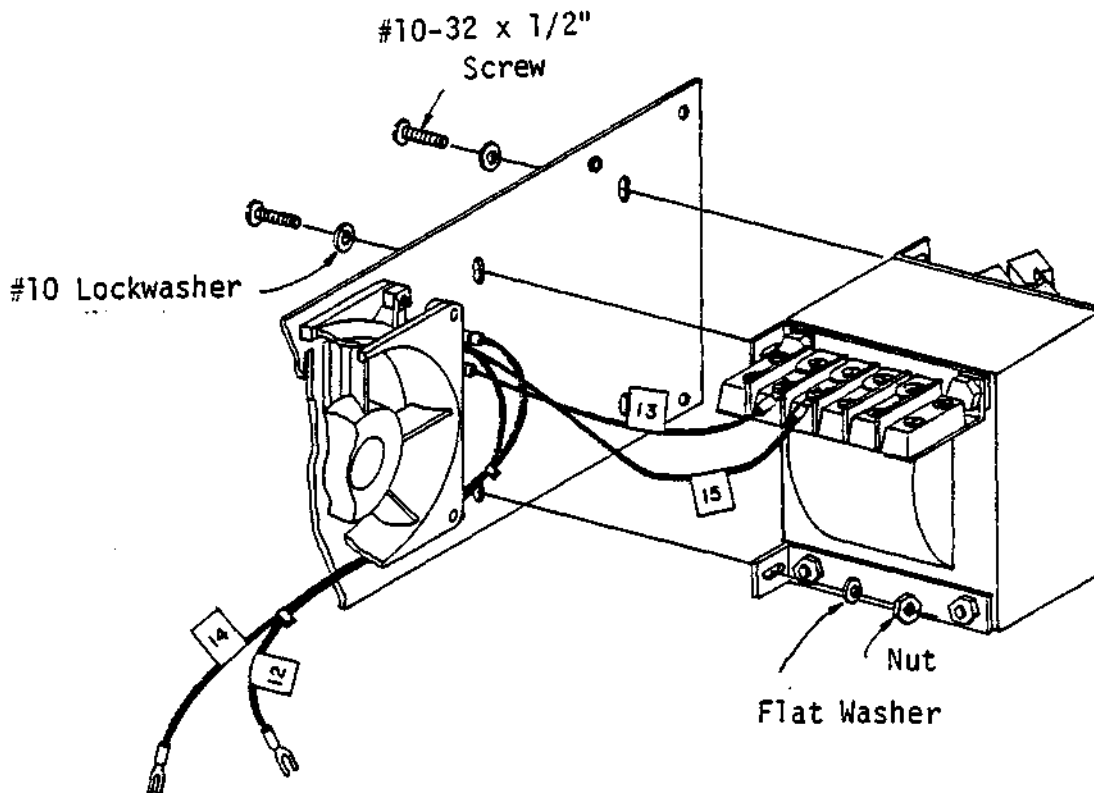

Figure 5-59. Transformer Mounting
1. Mount the transformer to the back panel as shown in Figure 5-59 using four #10-32 x 1/2 inch screws, 4 nuts, 4 flat washers and four #10 lockwashers. (The transformer positioning may have to be adjusted later when the back panel is mounted to the mainframe, to insure the transformer is resting on the cross member.)